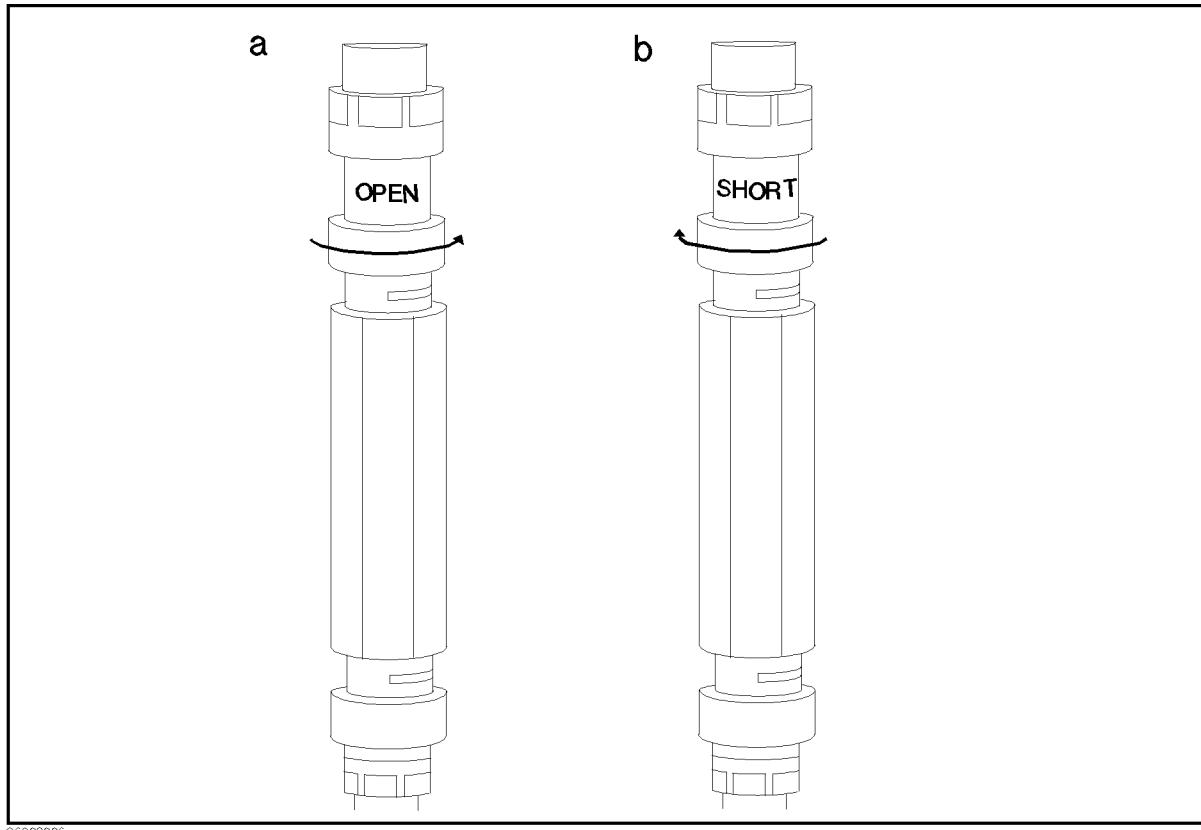

Figure 2-6. 10 cm Airline with Short Measurement Test Setup
70. Connect the 10 cm airline and short termination to the test head APC-7[®] connector, using the following procedure (see Figure 2-6):